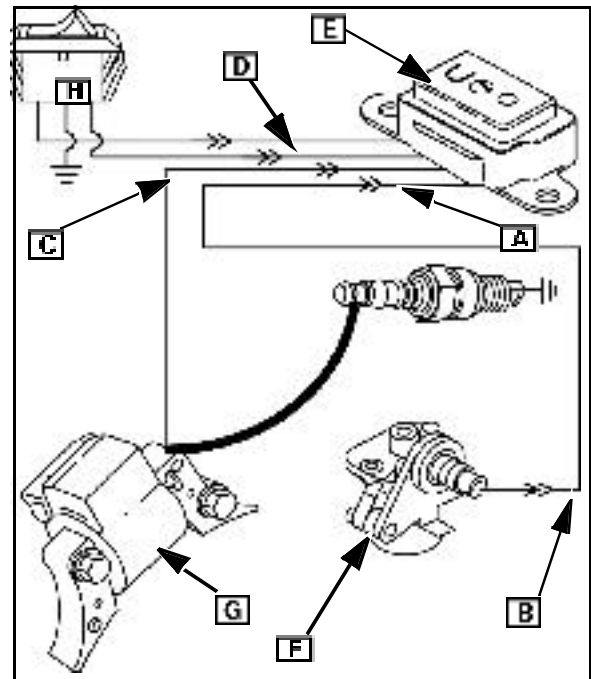

Fig. 52
- Replace the float sensor in the cylinder ([F] Fig. 52).
- Disconnect wire at ([C and D] Fig. 52) and start engine.
- Check the ON/OFF rocker switch ([H] Fig. 52).
- Disconnect BLUE or BLACK wire at ([A] Fig. 52) and start engine.